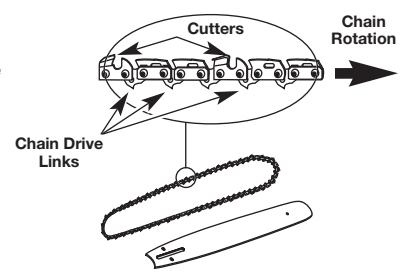
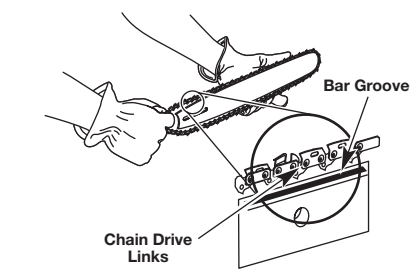

Fig. 36
Fig. 37
1. Lay out the new saw chain in a loop and straighten any kinks. The cutters on the top of the guide bar should face toward the guide bar tip in the direction of chain rotation (Fig. 36). If they face backward, turn the loop over.
2. Place the chain drive links into the bar groove as shown (Fig. 37). **NOTE:** Make sure the chain is correctly installed and the cutters are facing in the correct direction (Fig. 36).